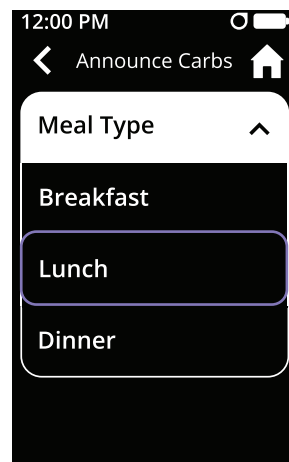

Figure 98
- a. Choose Meal Type. You can select Breakfast, Lunch, or Dinner (see Figure 98).